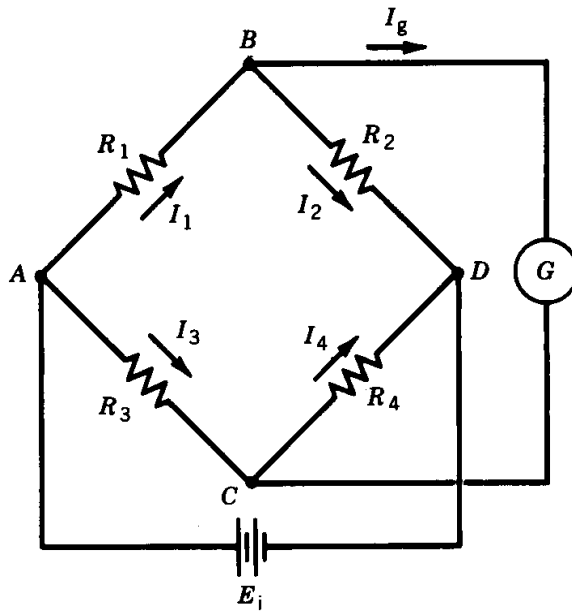

Figure 17. Basic Wheatstone bridge circuit.
- 99) Using the Wheatstone bridge circuit in Figure 17. If R_3 is strain gauge sensor then R_4 could be varied to balance the bridge.